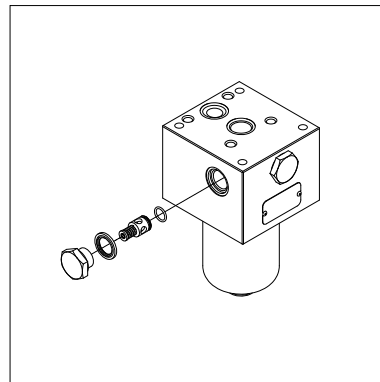

fig. 18
- (Fig. 18) Replace the O-rings of the indicator body